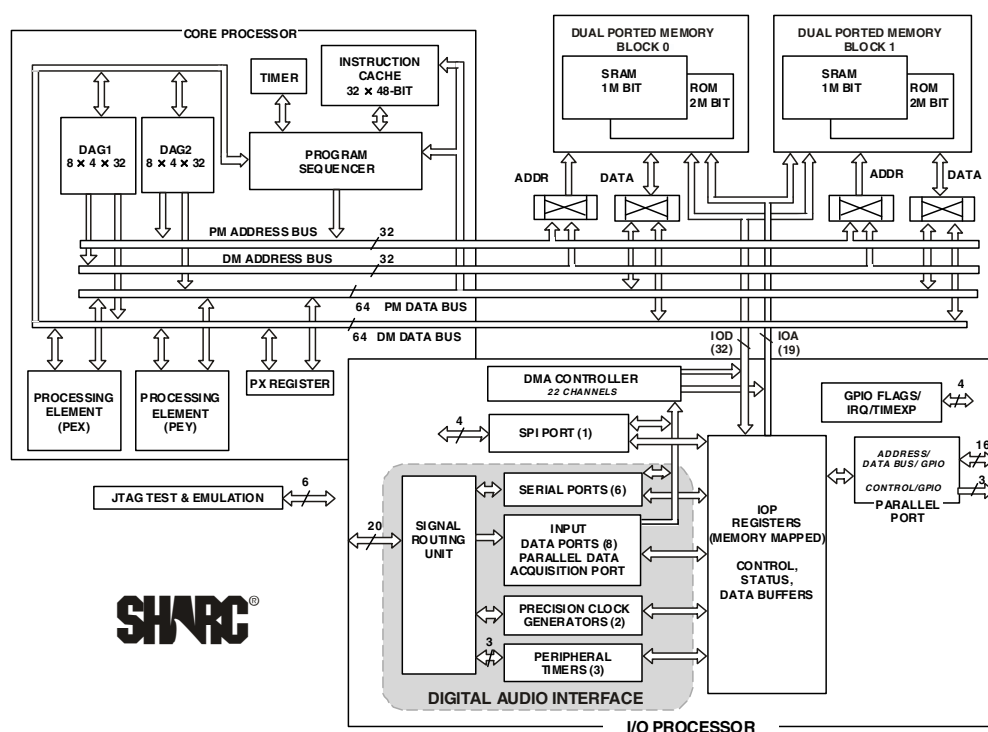

Figure 1. Functional Block Diagram
As shown in the functional block diagram in Figure 1 on Page 1, the ADSP-2126x uses two computational units to deliver a 5 to 10 times performance increase over previous SHARC processors on a range of DSP algorithms. Fabricated in a state-of-the-art, high speed, CMOS process, the ADSP-2126x DSPs achieve an instruction cycle time of 5 ns at 200 MHz or 6.6 ns at 150 MHz. With its SIMD computational hardware, the ADSP-2126x can perform 1200 MFLOPS running at 200 MHz, or 900 MFLOPS running at 150 MHz.
The ADSP-2126x features an enhanced Harvard architecture in which the data memory (DM) bus transfers data and the program memory (PM) bus transfers both instructions and data (see Figure 1 on Page 1). With the ADSP-2126x's separate program and data memory buses and on-chip instruction cache, the processor can simultaneously fetch four operands (two over each data bus) and one instruction (from the cache), all in a single cycle.